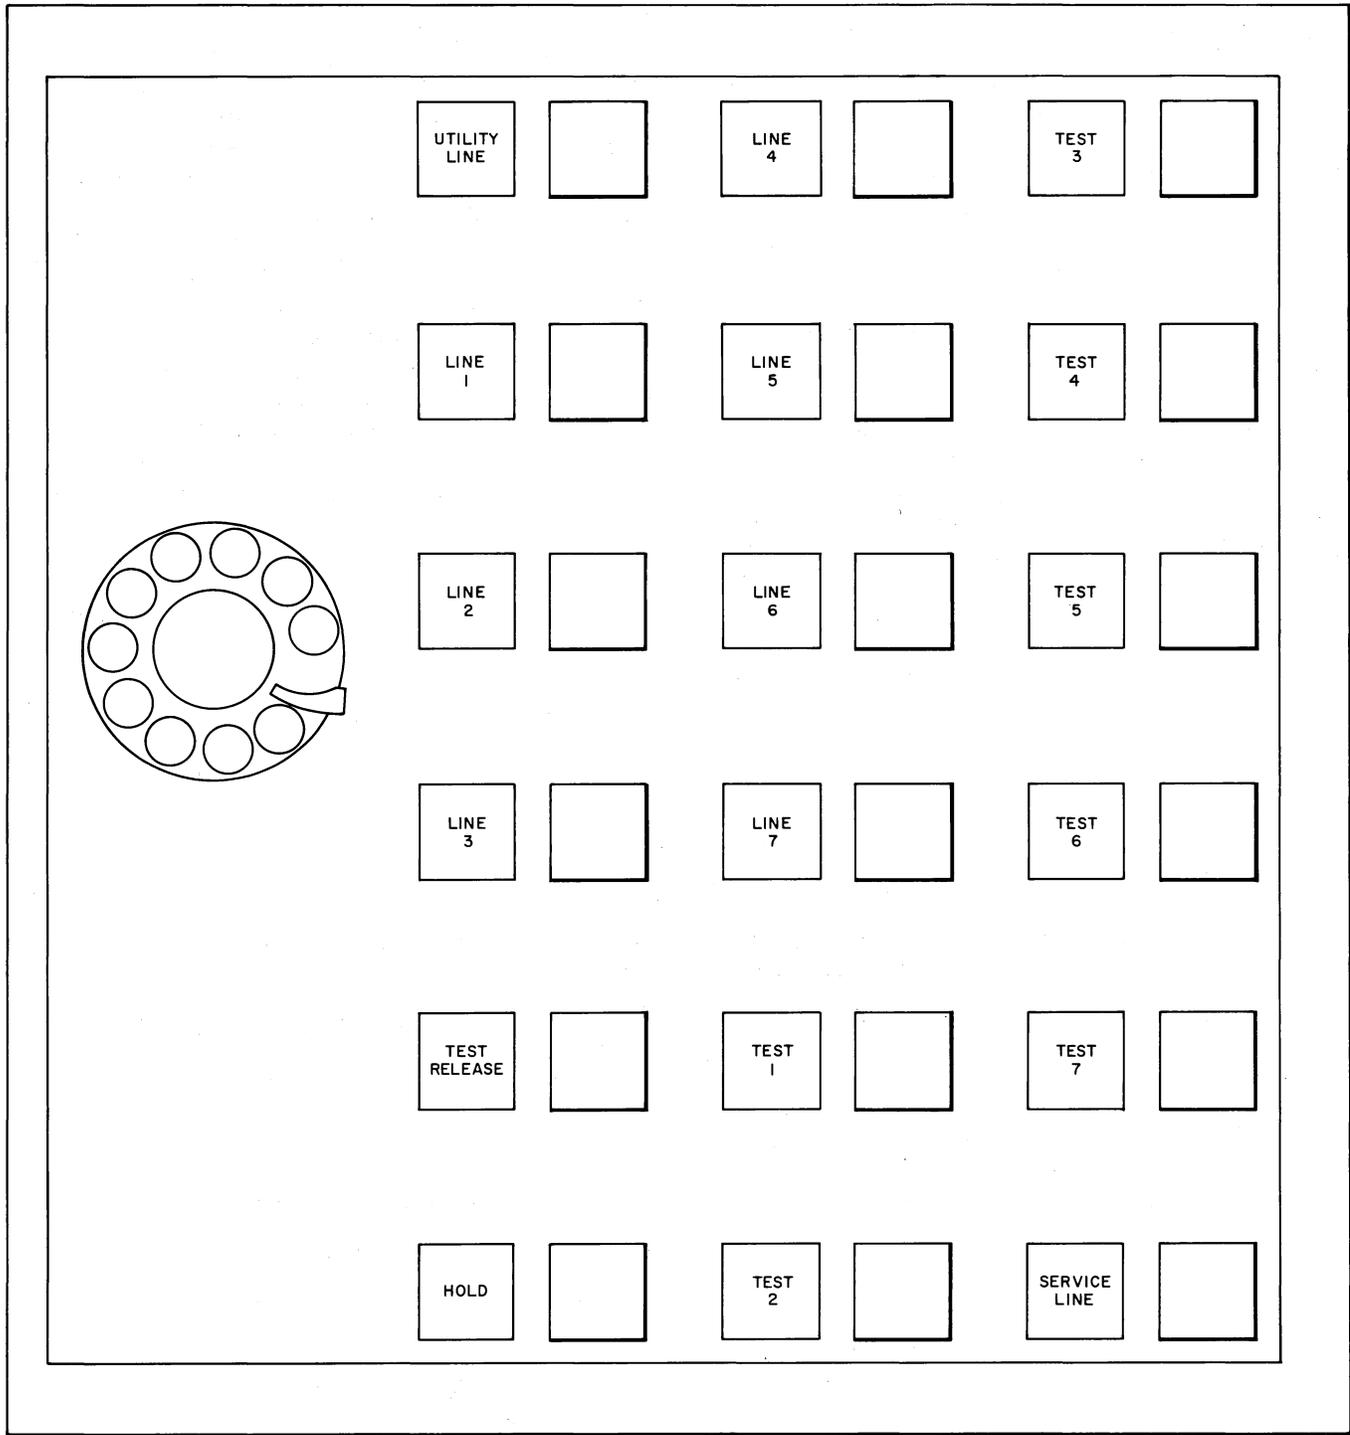

Fig. 8—630-Type Telephone Set Showing Test Buttons and Their Designations
3.04 The Data Set 403A1 may be used in any one of a number of multiple data set configurations. Data Set 401A1 does not have control keys for various functions. Control keys are provided by a 630- or 631-type telephone set or multiples of these telephone sets, dependent on the type and size of the installation required. The 630- or 631-type telephone set provides both line intercept and test control functions. Both functions may be provided by one telephone set, or these functions may be divided by providing two 630- or 631-type telephone sets (one for line intercept and one for test control). Fig. 8 illustrates a 630-type telephone set which provides the line intercept and test control functions for four data sets with 7 of their 8 contained receivers in operation. Each receiver is assigned one LINE key and one TEST key.